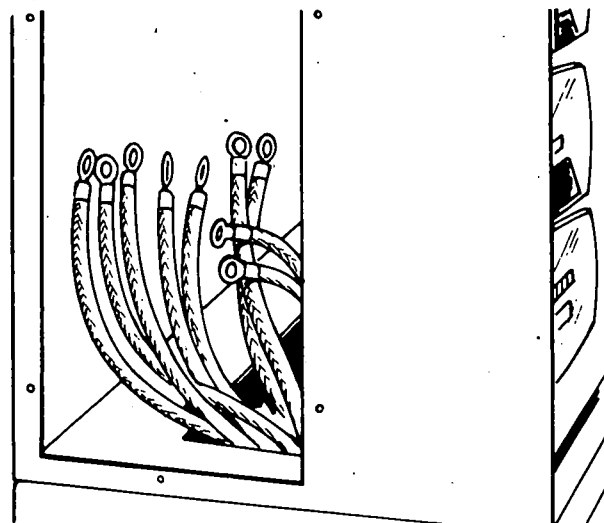

FIGURE 19. CONTROL BOX (SIDE PANEL REMOVED)
1. Remove either right, left or top panel from control box. See Figure 19.